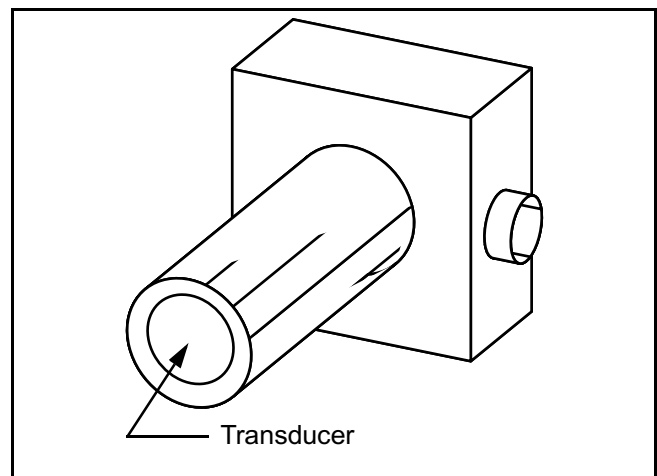

Figure 4 - 39 Cleaning sonic sensor
- 3) Check transducer daily for material buildup. The transducer can be cleaned with Simple Green cleaning fluid. Place cleaning fluid on a clean rag and rub transducer gently to remove any material. Wipe transducer clean and dry (Figure 4 - 39).